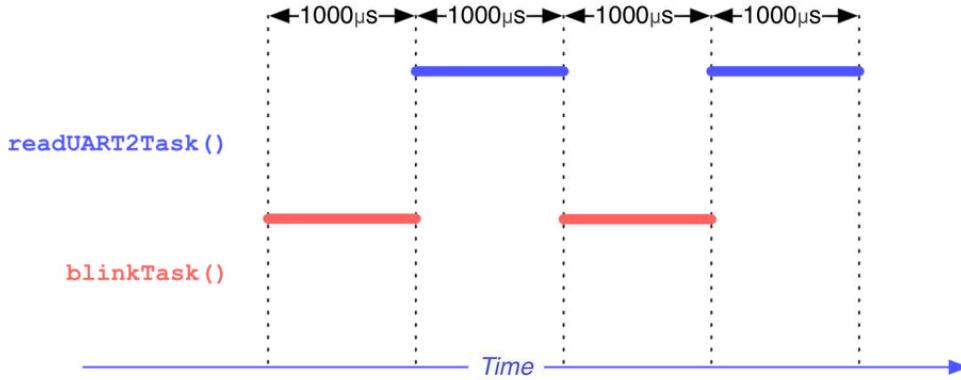
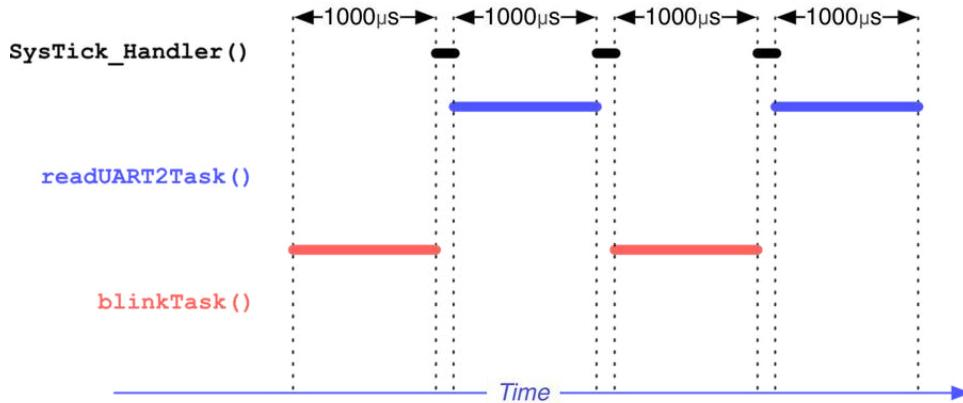

Figure 1: How an OS schedules the tasks execution by assigning them a fixed quantum time
Figure 3: The impact of the *context switch* on tasks scheduling
**Figure 1** shows how the task preemption works for the case of the example seen before. Here we are supposing that we have just two tasks: one for the `blinkTask()` routine and one for the `readUART2Task()` one. The OS starts scheduling the `blinkTask()` task, which can “use” the CPU for 1000µs (that is, 1ms)8. After the time is gone, the OS schedules the execution of the `readUART2Task()` which can now occupy the CPU for the same *quantum time*. After that period, the CPU will reschedule the first task, and so on.
In light of the considerations that we have shown up to this point, the **Figure 1** needs to be updated with the one shown in **Figure 3** where the time spent by the OS while performing *context switch* is also considered. *Context switches* are usually computationally intensive, and much of the design of operating systems is to optimize the use of *context switches*. Special care must be placed when developers decide to change the underflow frequency of the *SysTick* timer (often increasing it), which also affects the slice time of each individual task, and hence the number of *context switches* per second.